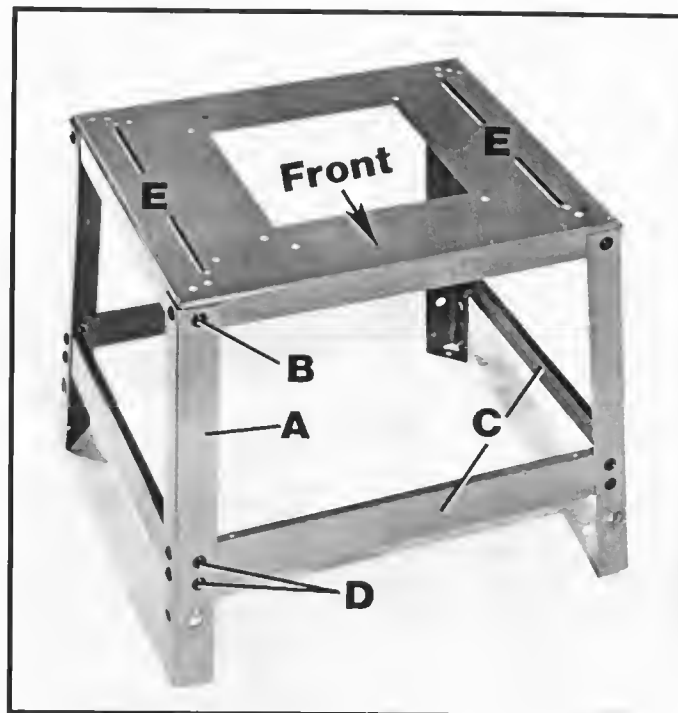
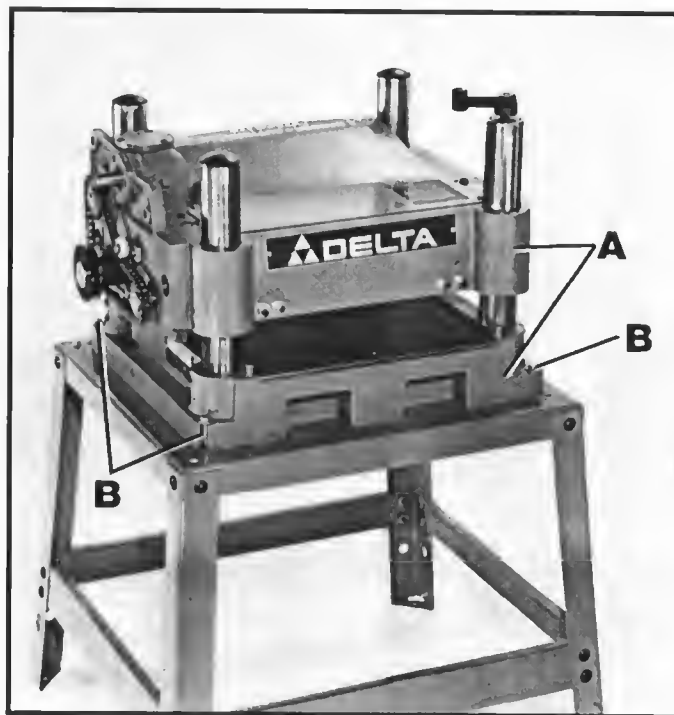

Fig. 2
Fig. 3
1. Assemble the stand, as shown in Fig. 2, using the 24 carriage bolts, 8 flat washers and 24 hex nuts. **NOTE:** When fastening the legs (A) to the shelf, use 8 carriage bolts (B), 8 flat washers and hex nuts. When fastening the legs (A) to the four tie bars (C), use 16 carriage bolts (D) and 16 hex nuts. Do not completely tighten the stand hardware at this time.
1. The four holes stamped and indicated as (E) Fig. 2, on the shelf are the holes which are used for mounting the planer to the stand. Fig. 2, also indicates the front of the stand.
2. Position the planer (A) Fig. 3, on the stand with the front of the planer positioned on the end of the stand indicated as "FRONT" as shown in Fig. 2. Line up the holes on the bottom of the planer with the four holes (E) Fig. 2, in the stand and fasten with the four 2-inch hex head screws, three of which are shown at (B) Fig. 3, eight flat washers and four hex nuts. **NOTE:** Fig. 3 illustrates the single phase planer on the stand. This procedure is the same for the three phase machine.